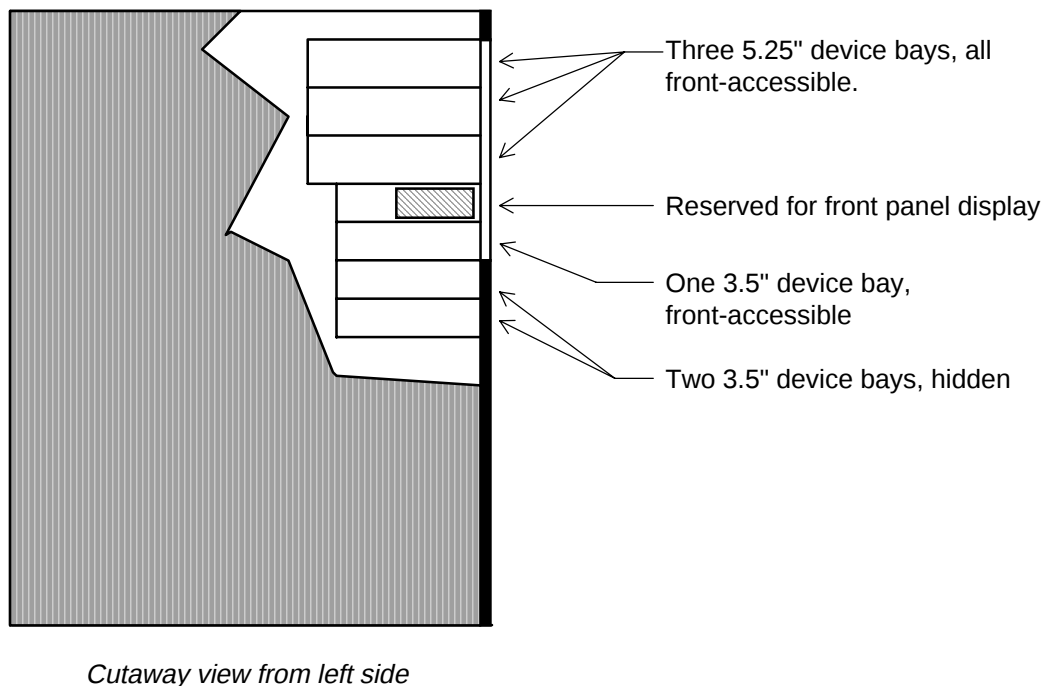

Figure 3. AM-6060 Chassis: Peripheral Mounting Bays
- **Peripheral mounting**—The AM-6060 chassis accommodates up to six peripheral devices. Figure 3 shows details.